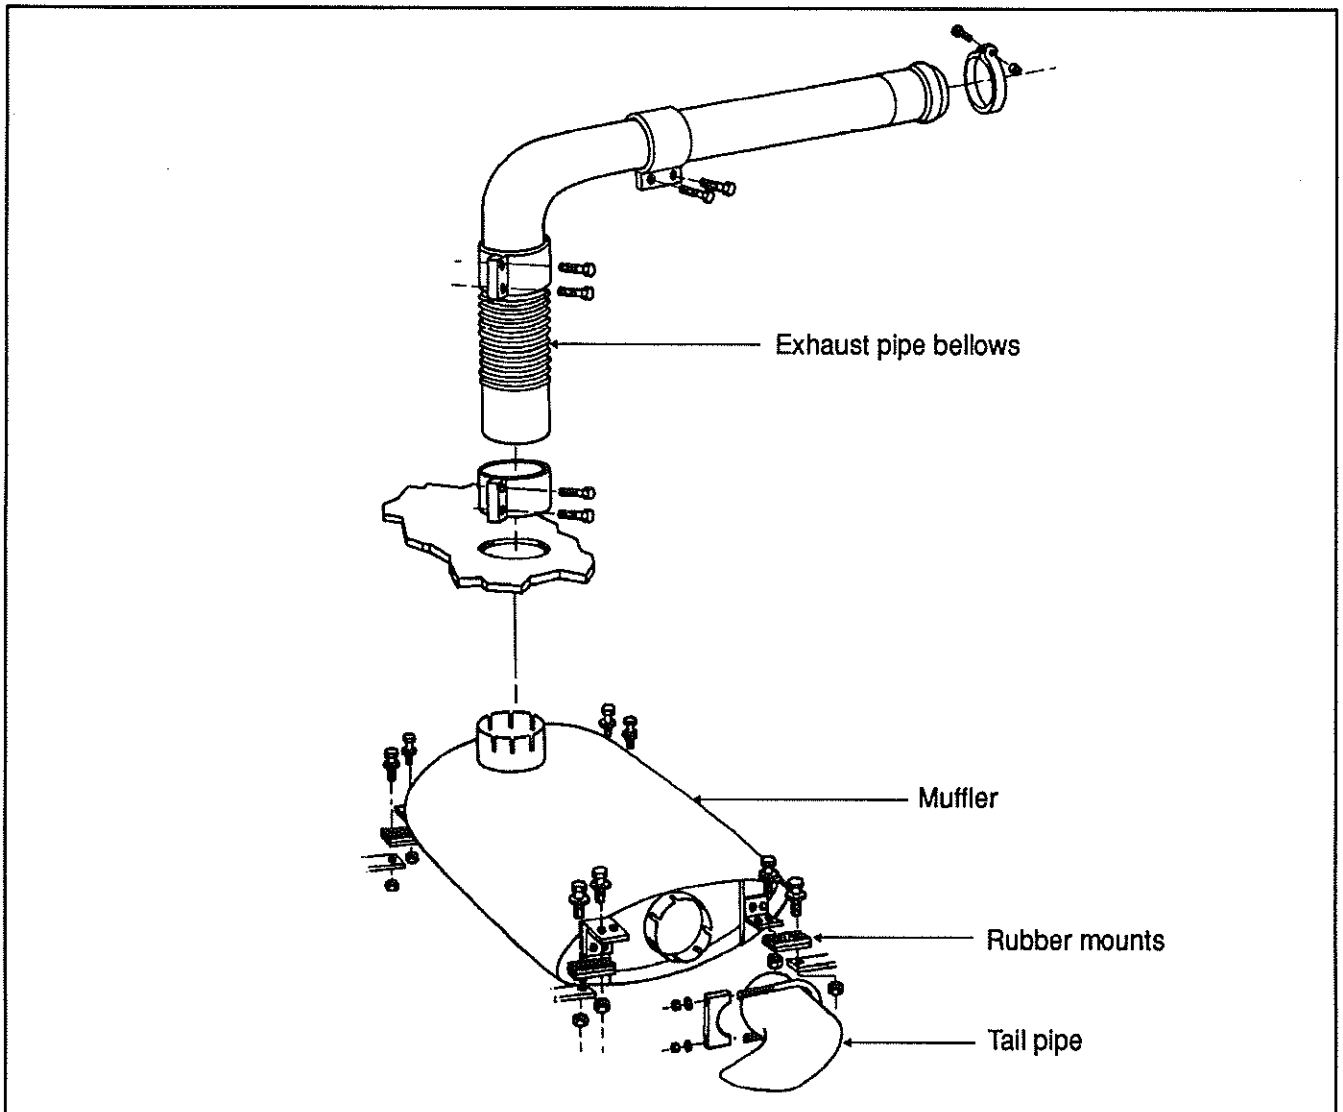

Fig. 1 - Exhaust system
1. Remove bolts and clamp which secure the exhaust pipe bellows to the muffler (see fig. 1).